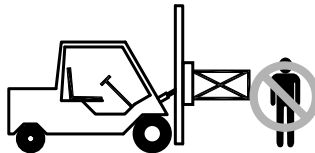

Figure 3-3,
- Never stand in front of or beside an attachment that is being operated. Never allow another person to approach an attachment that is being operated. (Figure 3-3)